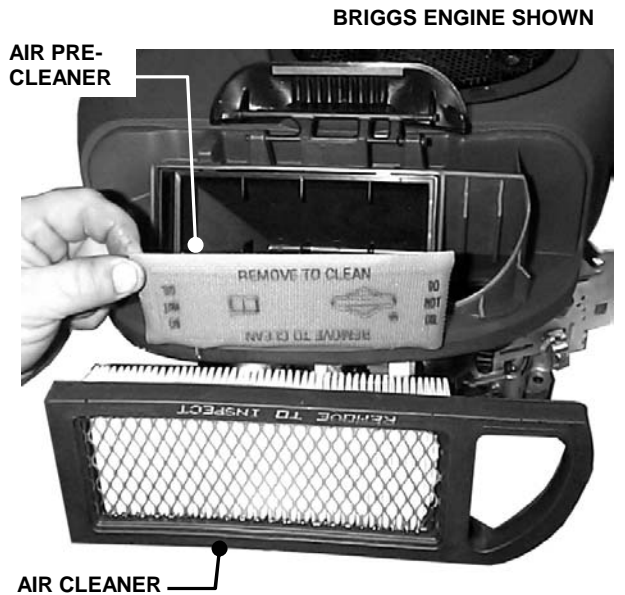

FIGURE 3.5
3. Refer to engine owner's manual for cleaning and service instructions. Remove and clean engine air pre-cleaner. Remove and replace engine air cleaner. See Figure 3.5. Install pre-cleaner and air cleaner per engine owner's manual.